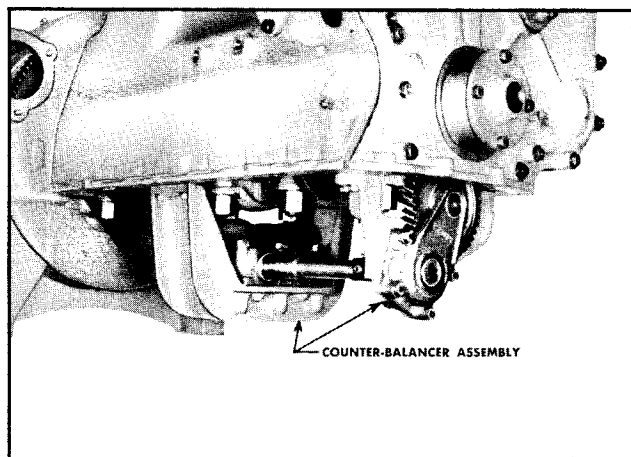

Fig. 4-28. Balancer assembly
2. Loosen the eight capscrews which hold the front drive assembly and the balancer assembly to the cylinder block. Fig. 4-28.